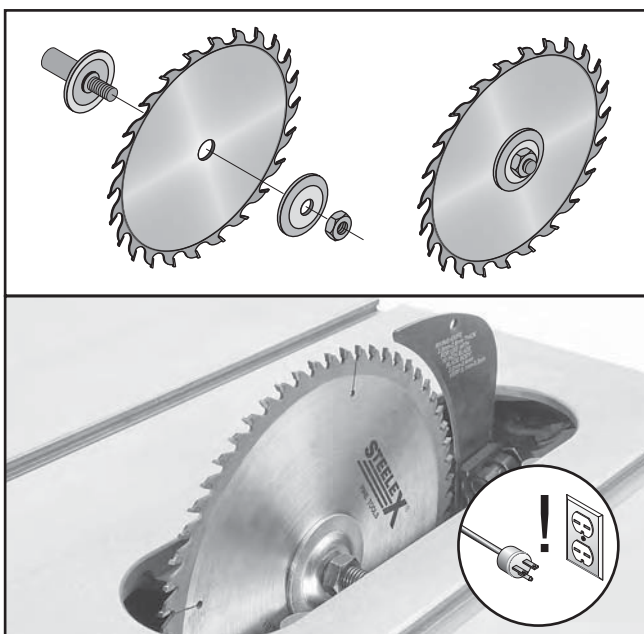

Figure 44. Blade order of installation and teeth facing the correct direction.
4. Install the new blade, flange and arbor nut on the arbor, as shown in **Figure 44**, with teeth facing the front of the saw.